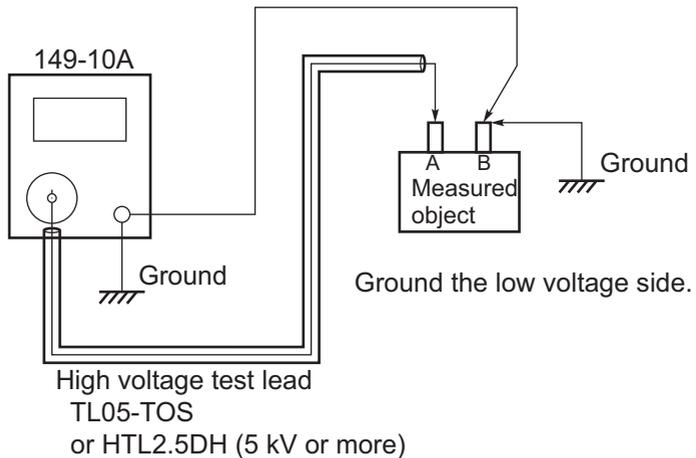

Fig.3-3 Connection for measuring
7. **Check that the 149-10A and measured object are connected as shown in Fig.3-3.**